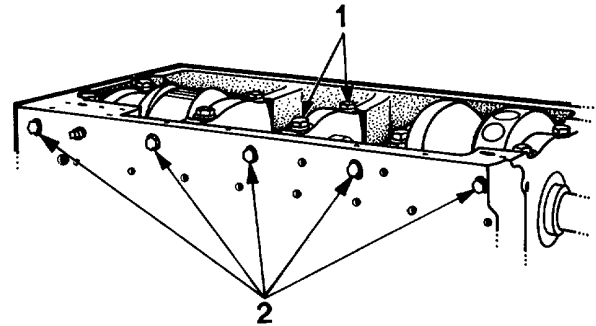

Fig. 71 Main Bearing Cap Bolts, Tie Bolts and Washer
74. Remove self-locking bolts, tie bolts and washers from each crankshaft main bearing cap (Figure 71).